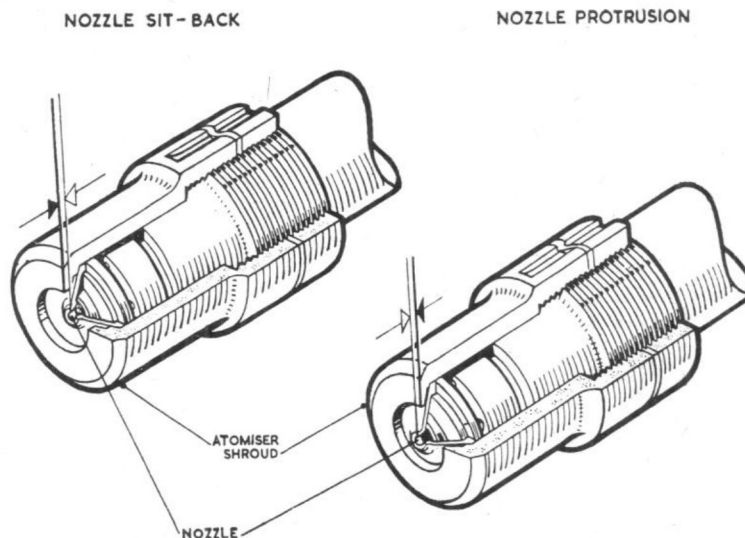

Fig. 10. Burner nozzle position
- (1) *On some burner assemblies, the nozzle may lie below the face of the atomizer shroud, thereby preventing an accurate reading being taken when the burner is mounted in the combustion chamber. In such cases a separate reading should be taken from the face of the atomizer shroud down to the burner nozzle and the resultant figure added to the dimension obtained in sub-para. (3) (fig. 10).*
- (2) *If, on the other hand, the nozzle protrudes beyond the atomizer shroud, a further reading will not be necessary as it will then be possible to obtain a correct reading with the burner in the combustion chamber.*
- (3) *On all replacement fuel systems, the position of the nozzle is clearly indicated on a label secured to the burner unit.*
- (5) Having established the number of adjusting gaskets required, remove the burner from the combustion chamber, then refit with the gaskets in position.
- (6) Repeat the operations detailed in subpara. (2), (3) and (4) until the correct burner 'sit-back' is obtained, then securely tighten and wire-lock the two lower burner retaining nuts, leaving the two upper nuts finger-tight.